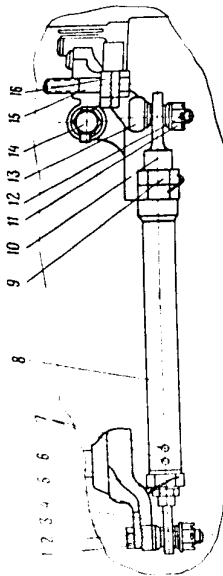

Fig.17. Attachment of HP-10A Pump to MV-3 Control Panel
28. Attach the free moving link (Fig.17) to the lever of the HP-10A pump; check and adjust engine controls. With the HP-10A pump lever shifted to the "CUT-OFF" (CTOH) stop (causing the pump throttle cock to close), the notches on the lever and on the housing of control panel NY-3 should coincide, while the zero mark of control panel NY-3 should be set against the notch provided on the panel housing.
rack, and also change the length of the link by rotating the hexagon of the link body. The length of the pump lever arm should be changed in case of considerable lack of coincidence between the levers of control panel NY-3 and the HP-10A pump, when in the "STOP" (CTOH) position, while adjustment of the link should be performed when control panel NY-3 lever considerably deflects from  $70 \pm 1^\circ$  (on the panel dial), with the pump lever being shifted to the maximum speed stop. When increasing the length of the link, watch the shackle entering the link, making use of the check holes provided in the link body (See Fig.17).